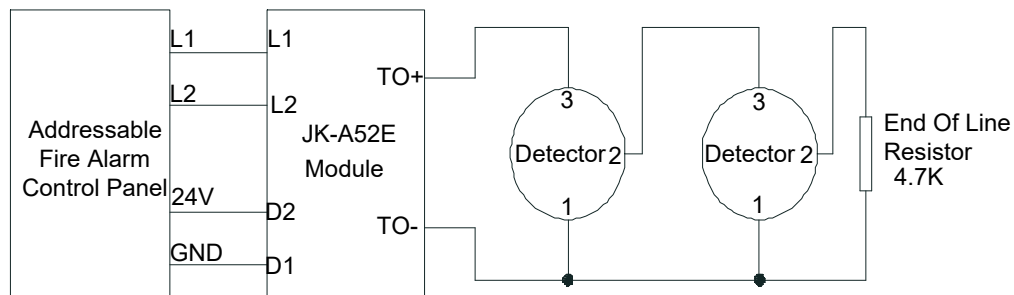
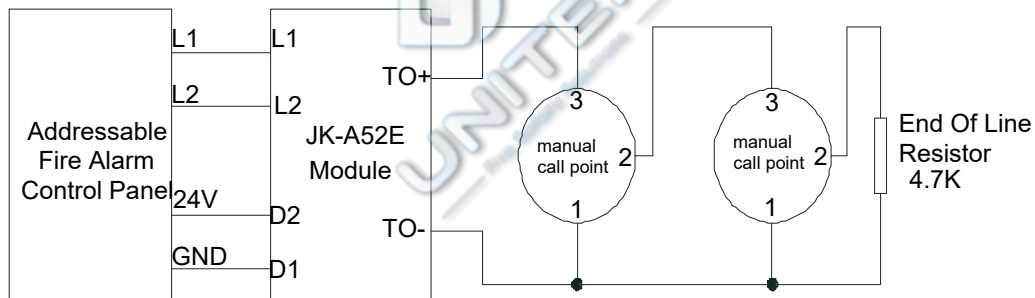

Figure 3
Figure 4
4.2 Connection mode 1: Connect the detector (as shown in Figure 3 below) :
4.3 Connection mode 2: Connect the manual call point (or fire hydrant button)(as shown in Figure 4 below):
- 5.3 Wire correctly as shown in Figure 3 or Figure 4;